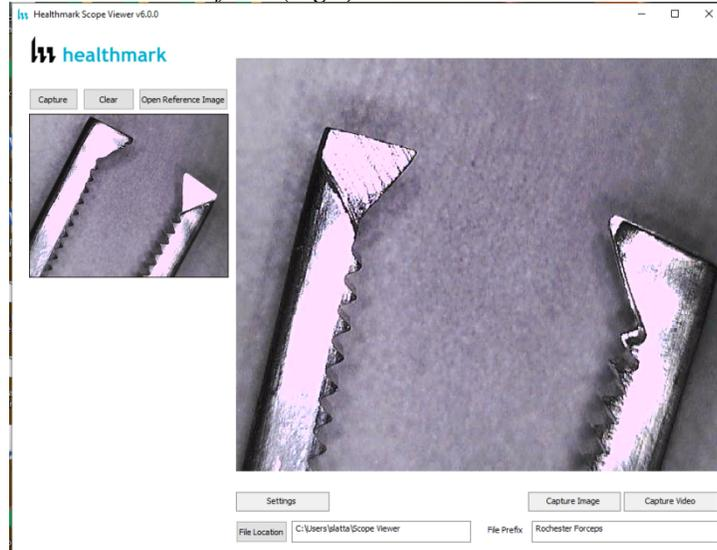

Figure 8
*Note: The images will be saved in a file folder titled **Reference Images** in the user designated File Location specified in the **File Location** field. (Fig 8).*